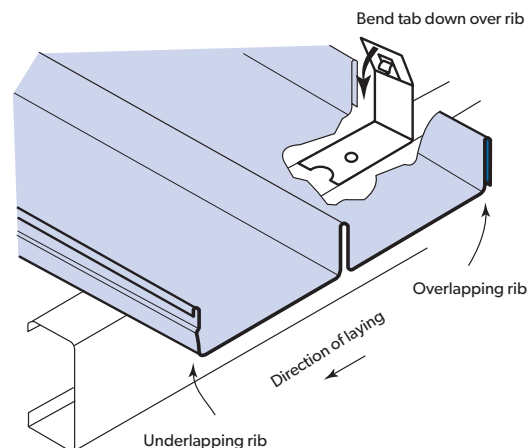

Figure 9.4.3
3. Bend the tab of all clips over the rib (Figure 9.4.3).